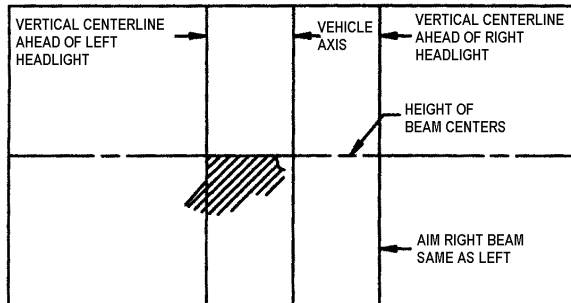

FIGURE 32: HIGH-INTENSITY ZONE (SHADED AREA) OF A PROPERLY AIMED LOWER BEAM ON THE AIMING SCREEN 7.6 M (25FT) IN FRONT OF VEHICLE 06504
6. Low beam headlights are aimed so that the top edge (the cutoff) of the high-intensity zone is at the vertical location as per Table 1 and the left edge of the high-intensity zone is at the vertical centerline of the headlight (Fig. 32).